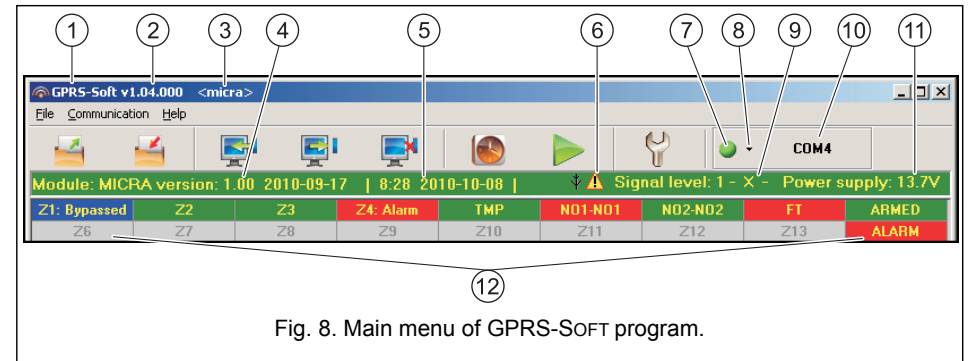

Fig. 8. Main menu of GPRS-SOFT program.
The serial COM port of the computer must be connected with the RS-232 (TTL) port on the module electronics board. The cables for making this connection are available as a set designated DB9FC/RJ-KPL. Indicate in the GPRS-SOFT program the computer COM port to be used for communication with the module. To do so, click on the "Configuration" button (see: Fig. 8 and explanations for the figure) and, in the window that will open, select one of the available computer COM ports. After activation of the selected COM port, the program will establish communication with the module.
2. Click on the "Configuration" button (see: Fig.8 and explanations for the figure) and, in the window that will open, enter the number of TCP port selected for communication with the module. The number will have to be included in the body of SMS message which will be sent to the module GSM telephone number to initialize communication.
3. Click on the  button (see Fig. 8). In the menu that will open, select "TCP/IP" to activate the server.
Explanations for Figure 8: